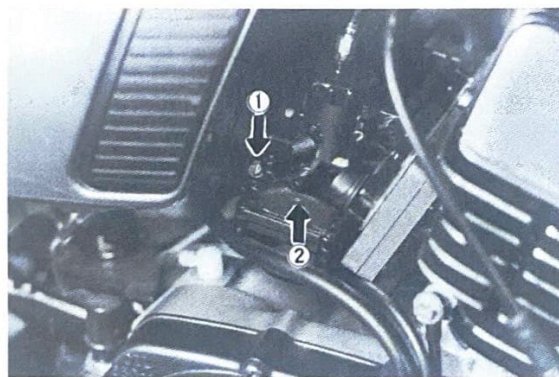

Fig. 66
2. Turn in the idle air screw until it bottoms against the seat lightly. (Fig. 66)
2. Visser la vis de richesse du ralenti à fond de course, mais sans forcer. (Fig. 66)